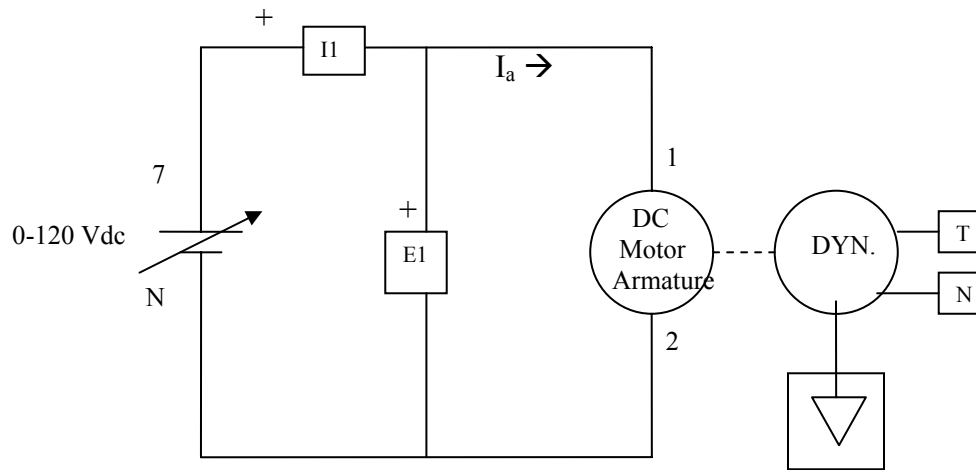

Figure 1: DC Motor Armature Circuit
7. Construct the DC Motor armature circuit of Figure 1. Set the Prime Mover / Dynamometer controls as follows: